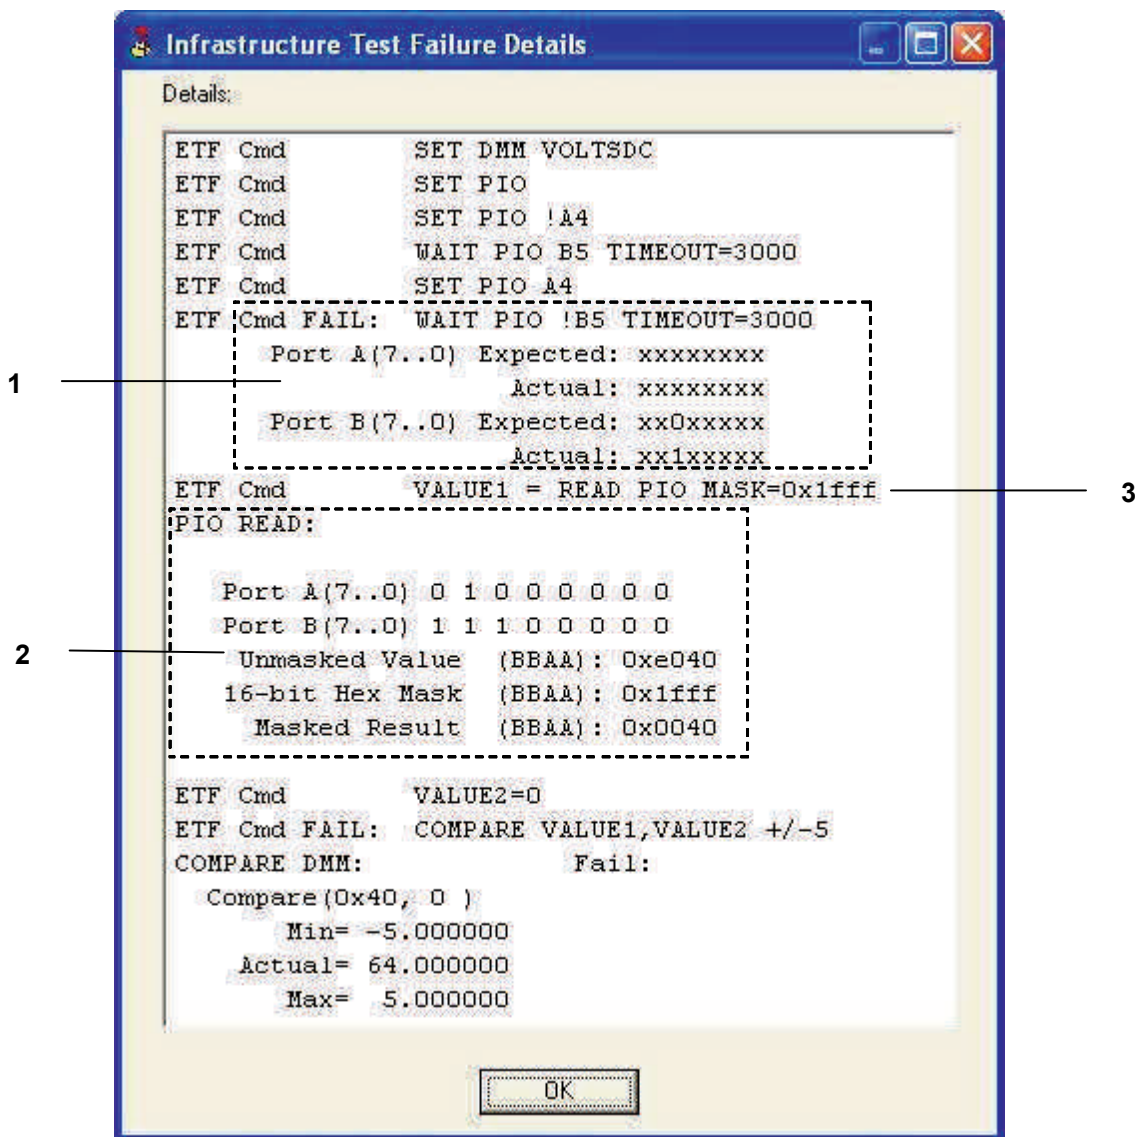

Figure 6-16. Example PIO command details
Figure 6-16 shows the detailed output of a READ PIO command. The command specifies a MASK of 0x1fff. This has the effect of stripping off the upper 3 bits. All bits that are masked off will have a zero value in the result. In other words, the resulting value of the READ PIO command will be in the range from zero to 0x1fff (See item 3 in Figure 6-16).
The detailed results of a READ PIO with mask can be a little confusing. Take a look at item 2 in Figure 6-16. The “Port A (7..0) 0 1 0 0 0 0 0 0” line indicates the contents of PIO port A. The value is a binary 01000000, or 0x40 in hexadecimal. The “Port B (7..0) 1 1 1 0 0 0 0 0” line indicates the contents of PIO port B. The value is a binary 11100000, or 0xE0 in hexadecimal. After combining the values for port A and port B we get the 16-bit value 0xE004. This is the “unmasked” value constructed by shifting the value for port B into the upper 8-bits of our 16-bit value. The mask we provided as an argument to the READ PIO command (0x1fff) is logically “anded” with the 16-bit unmasked value (0xE004) to produce the final result. This final result is called the “masked result”, and this is the value that is assigned to the variable (0x0040).
The WAIT PIO command (see item 1 in Figure 6-16) monitors the input bits of the PIO until a specified condition is met. If the condition is not met, the command will wait indefinitely unless a TIMEOUT value is specified. The time out value is entered in milliseconds. The wait condition is specified in a manner similar to the SET PIO command. A condition is built by explicitly listing each bit and its desired state. Any bit not specified is masked out and not significant to the WAIT command.
Item 1 of Figure 6-16 shows a very simple condition. The test waits until Bit 5 of port B goes low. If the bit does not go low within three seconds (3000 milliseconds) the WAIT command will notify ScanExpress Runner of a FAIL condition. If you examine the detailed display closely you will see the expected value, and the actual value at the conclusion of the WAIT command. Each ‘x’ in the display indicates a masked, or “don’t care” bit.
Figure 6-16 shows a detailed diagnostic display of an ETF test step utilizing the PIO commands. It starts out by configuring the digital multi-meter to read dc voltage. That is always a good safety precaution to prevent damage to the DMM, especially if it had previously been set to a very low current mode. Next, the PIO is put into tri-state. Then bit 4 of output port A is driven low. The test then pauses until bit 5 of port B goes high, or three seconds elapses. Next, bit 4 of port A is driven high. The test pauses again, until bit 5 of port B goes low, or it times out. In this particular case, bit 5 never went low, so the test reports a FAIL condition to ScanExpress Runner. After that it reads the PIO input bits, and masks off the upper three bits. It saves the resulting value into a variable named